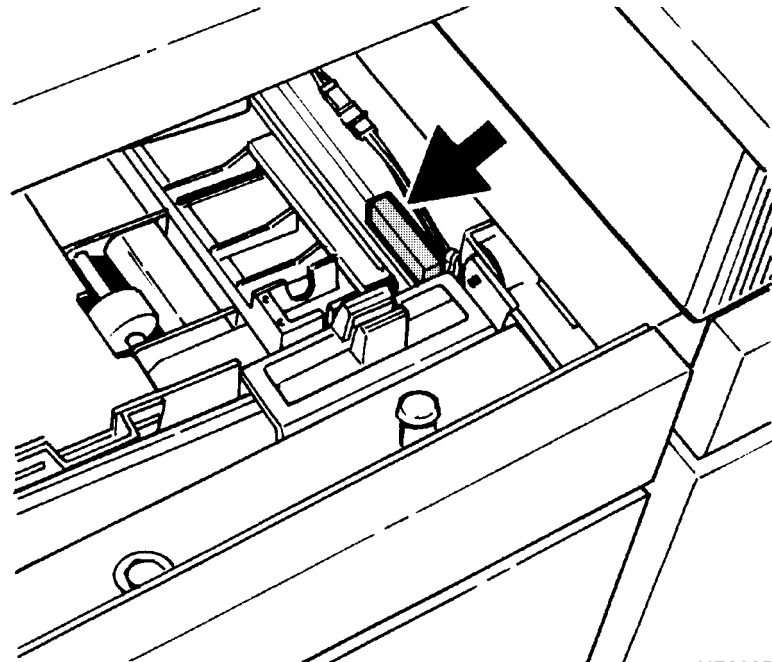

Figure 3-37 Locating the Q1201 sensor
2. Locate the Q1201 sensor, as shown in figure 3-37